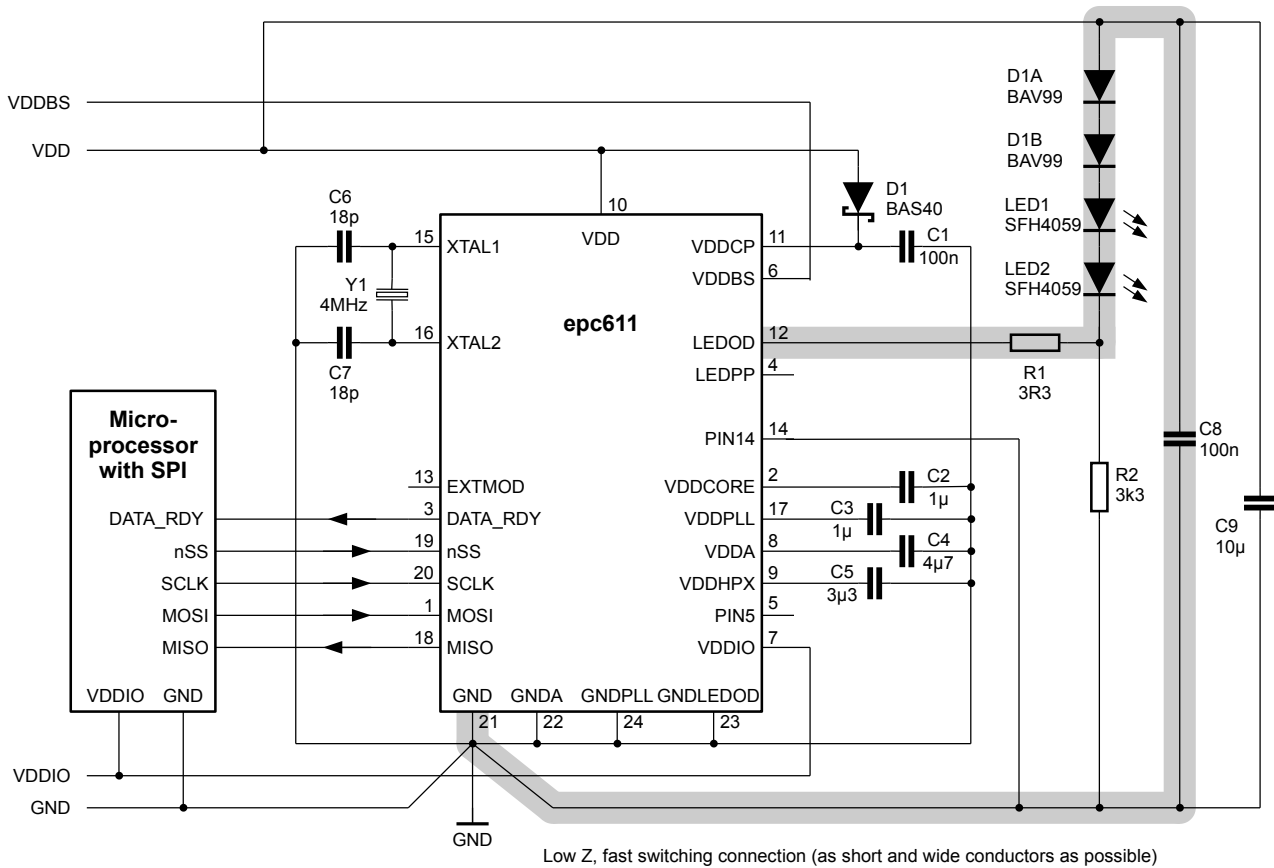

Figure 13: Typical application diagram
Table 11: Values of the components related to epc611 chip (Figure 13)
LEDOD is an open-drain nMOS FET driver output. This allows direct drive of illumination sources e.g. LD or LED. When the LED driver is active (ON), the LED current flows through the resistor R1 into the LEDOD pin, through the on-chip driver and comes out of the chip on the VSSLED ground pin (Figure 13).